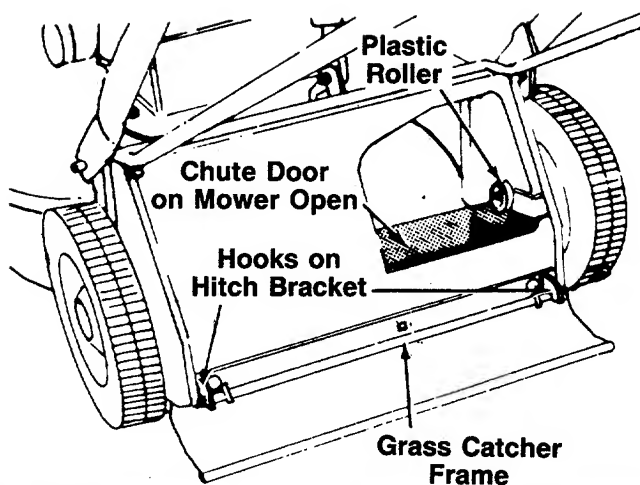

FIGURE 10.
1. Attach the grass catcher frame to grass catcher hitch bracket on rear of the mower by hooking grass catcher into hooks on grass catcher hitch bracket. See figure 10.
2. Lift the rear of grass catcher up. The roller on the grass catcher will push the chute door on the mower open. See figure 10.
NOTE: Figure 10 is shown with the chute door open for clarity only.